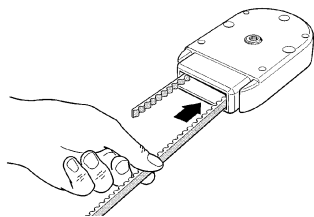
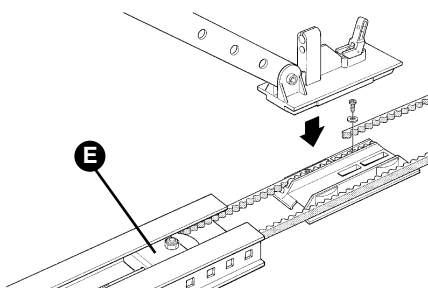

Figure 28
Figure 29
**3** Pass the free end of the belt through the head section, as shown in figure 28, and secure to the carriage by means of the screws and washers present, as shown in figure 29. Take care when positioning the belt; the teeth must be facing inwards, and must be straight without twists.